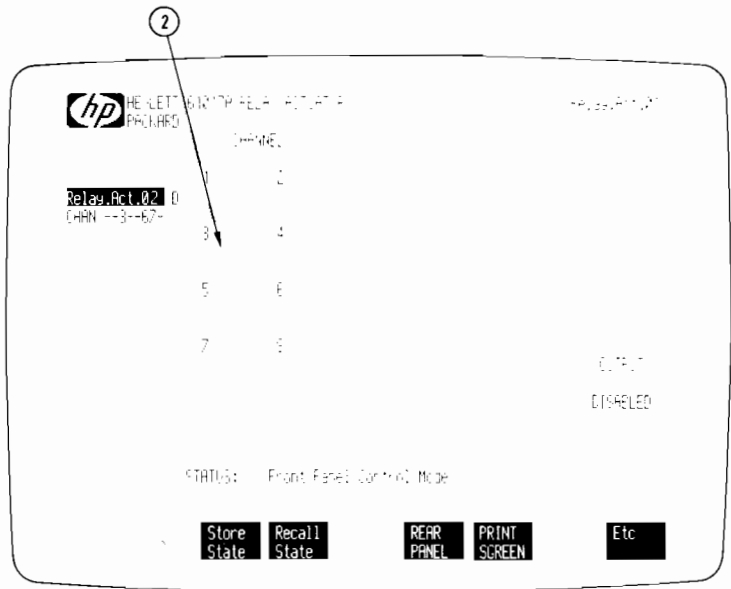

Figure 2-2. Select a Channel
Step 2 - Once you select RELAY.ACT.01, the RELAY.ACT.01 information in the System View Window disappears, and a front panel representation of the Relay Actuator appears in the Interactive Instrument Window (see Figure 2-2). Notice that the display indicates no channels are selected. To operate RELAY.ACT.01, first point to and select the channel 3 field.